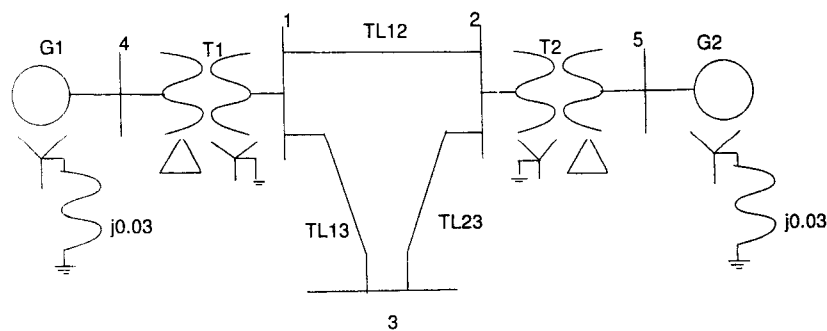

Figure 6.1: A simple power system
- (c) Consider the one-line diagram of a simple power system shown in Figure 6.1. System data in per-unit (p.u.) on appropriate MVA base are given as follows: